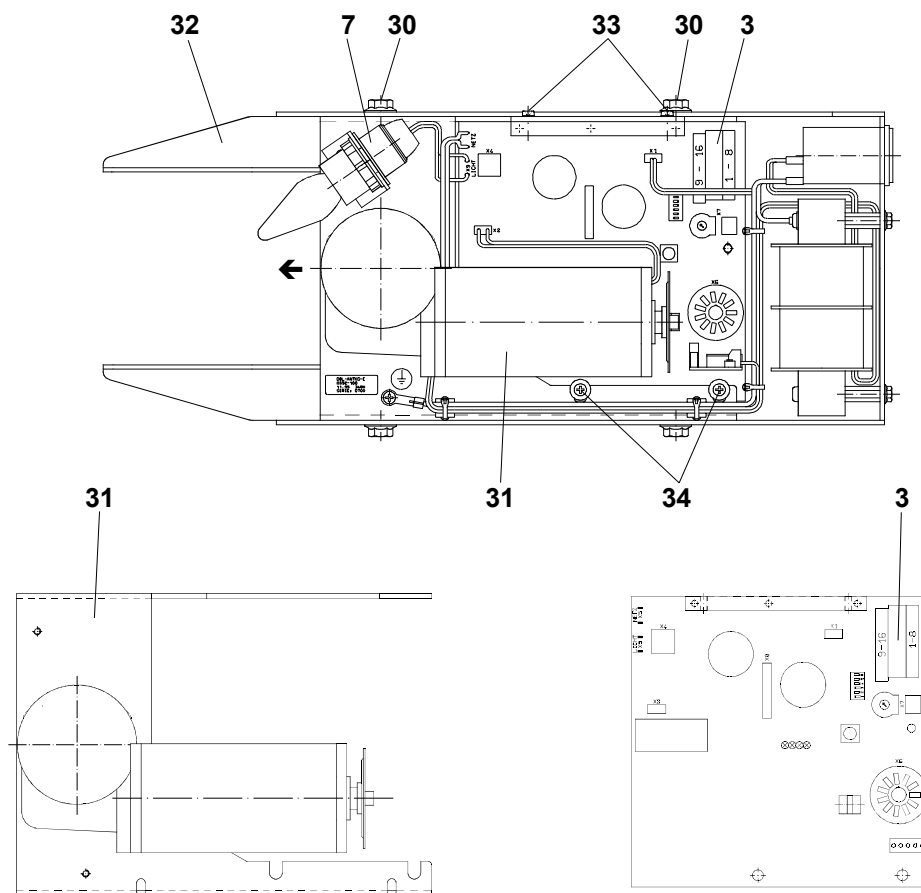

Fig. 15
- Unscrew the hexagon countersunk bolts with double nip (30).
- Push the motor unit (31) and the control module (3) forward in the direction of the arrow and unhook the chain from the chain pinion.
- Remove the complete motor unit (31) with the control module (3) from the housing (32).
- Unscrew the recessed head screws (33) and (34) of the control module (3) and remove the control module (3).
- Screw off the lamp base (7). Fig. 15